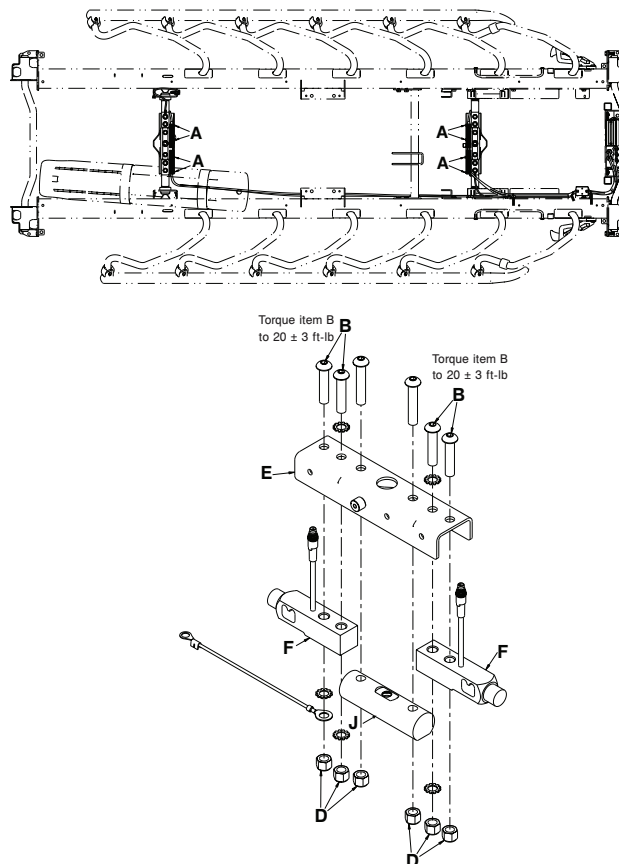

Figure 53 – Load cell replacement
3. Using wire cutters, cut the cable ties (A) that secure the cable to the lifthead bracket (Figure 53).